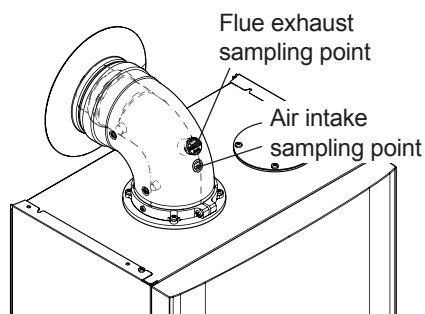

Figure 11.3
- 8 Fit the probe of the flue analyser in the flue exhaust sampling point located on the exhaust pipes of the boiler (Figure 11.3).